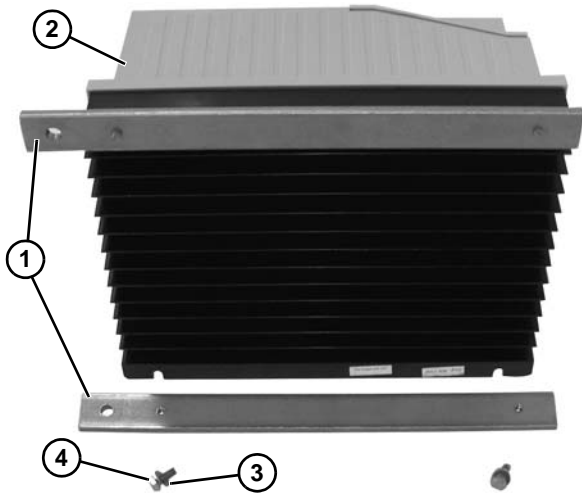

Figure 17
1. Attach mounting bars (**Figure 17, item 1**) to controller (**Figure 17, item 2**) with washers (**Figure 17, item 3**) and screws (**Figure 17, item 4**).